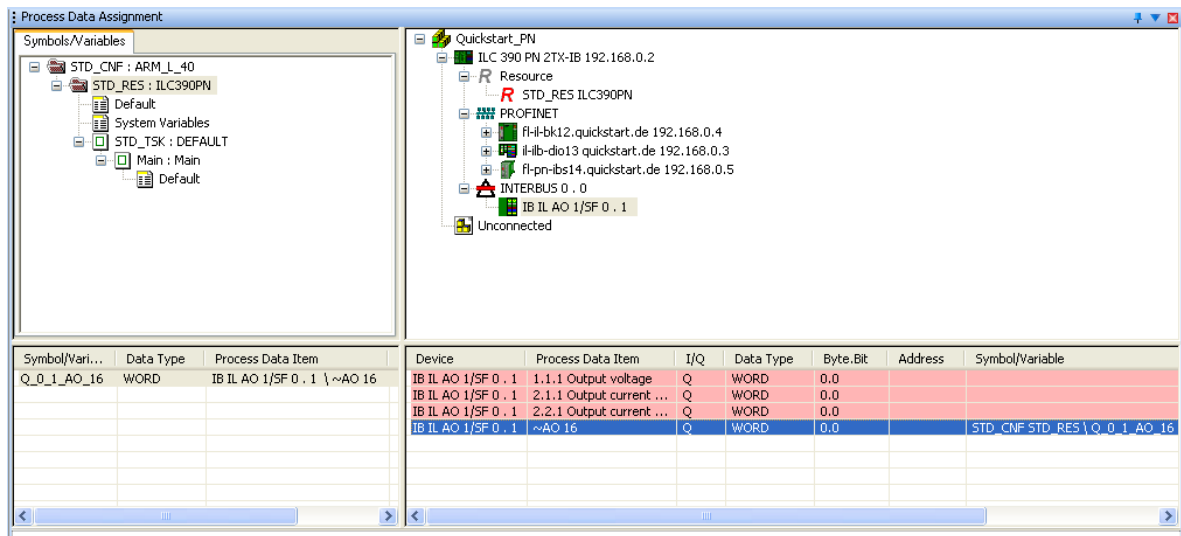

Figure 4-19 Variable generated for process data item "~AO 16"
- In the top left window, select the resource or program (in Figure 4-19: resource "STD\_RES: ILC390PN").
- Select the process data item for which you would like to generate a variable (~AO 16 in Figure 4-19).